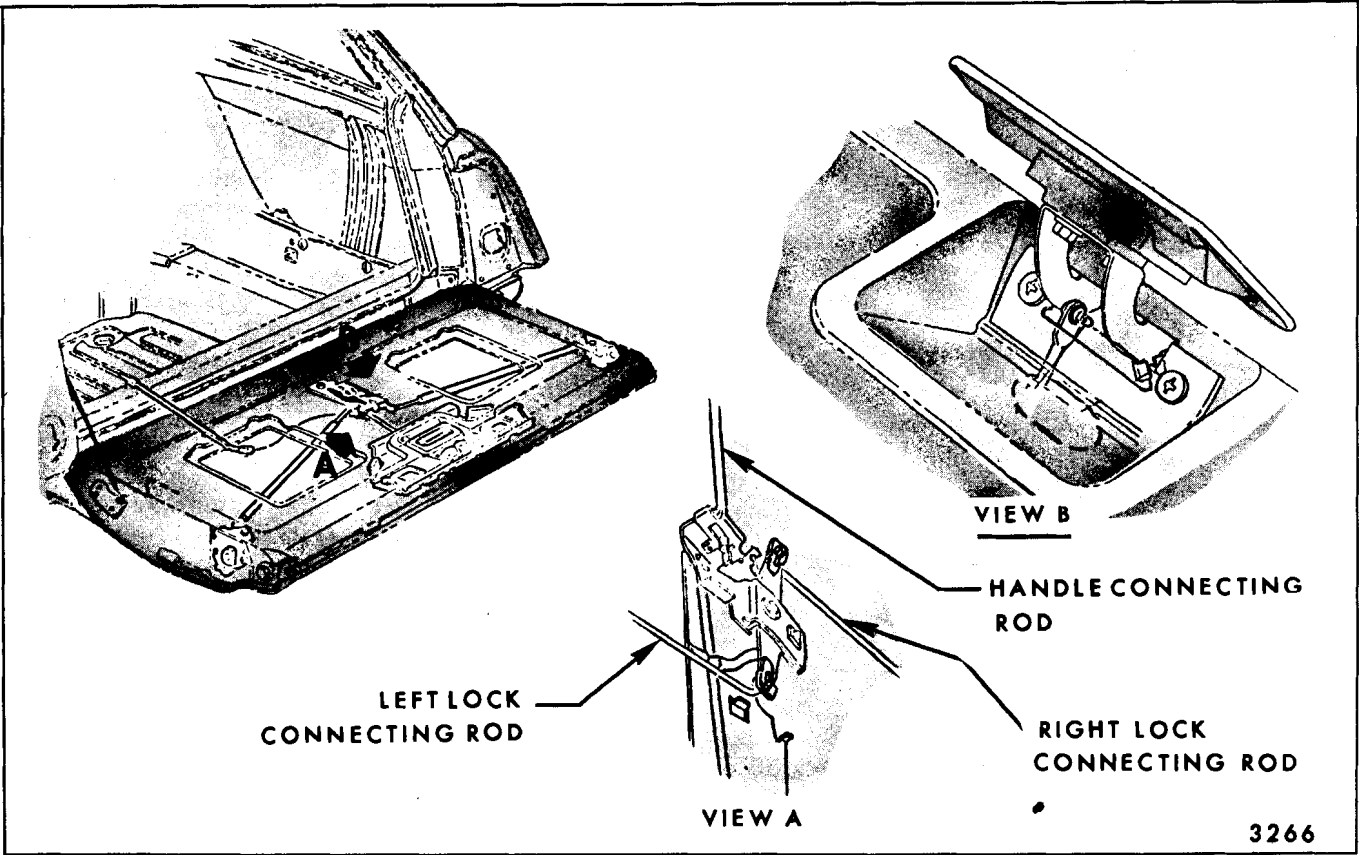

Fig. 9-44-Dual Acting Tail Gate Lock Remote Control Assembly-Gate Operation (center)
3. Disconnect remote control to lock connecting rods at remote control assembly by sliding clips out of engagement (Fig. 9-44).
5. Disengage remote control center handle from push rod and remove remote control and rod assembly (Fig. 9-44).